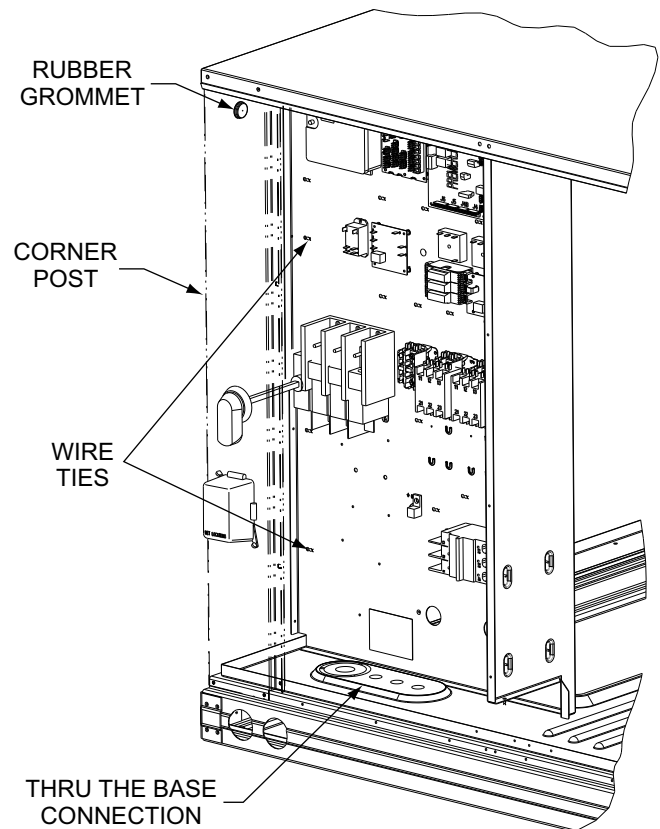

Fig. 52 — Field Control Wiring Raceway
2. Feed wires through the raceway built into the corner post (see Fig. 52) to the 24-v barrier located on the left side of the control box. The raceway provides the UL-required clearance between high-voltage and low-voltage wiring.